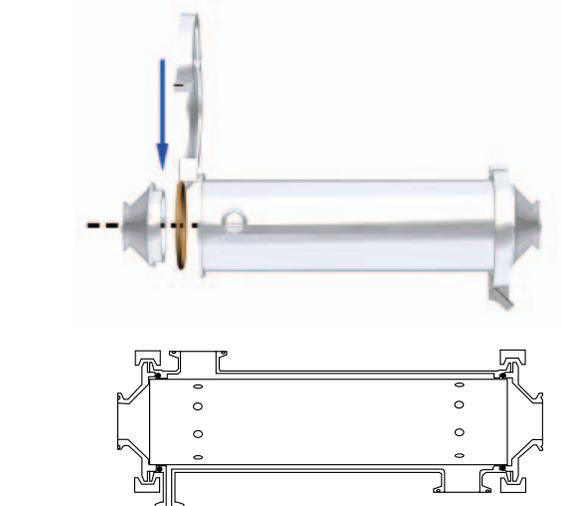

Figure 3. Position of components of SMO membrane filter cartridge and housing
Follow these steps to install an SMO cartridge element into an SMO housing (see Fig 3):
1. Place the stainless steel housing horizontally on a workbench (see Fig 3 for positioning).